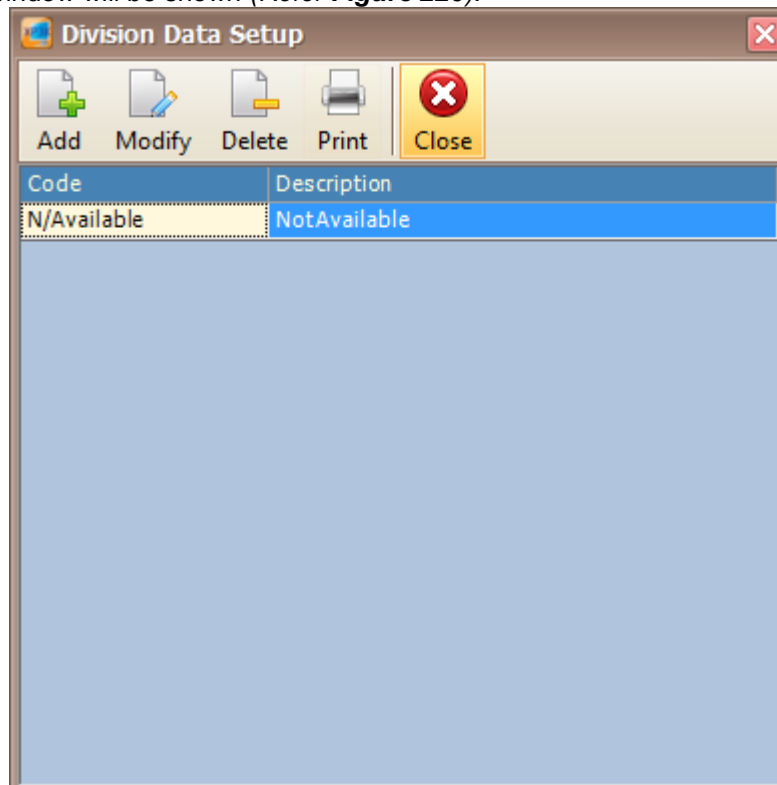

Figure 220 - Division Setup
2. The following window will be shown (Refer **Figure 220**).